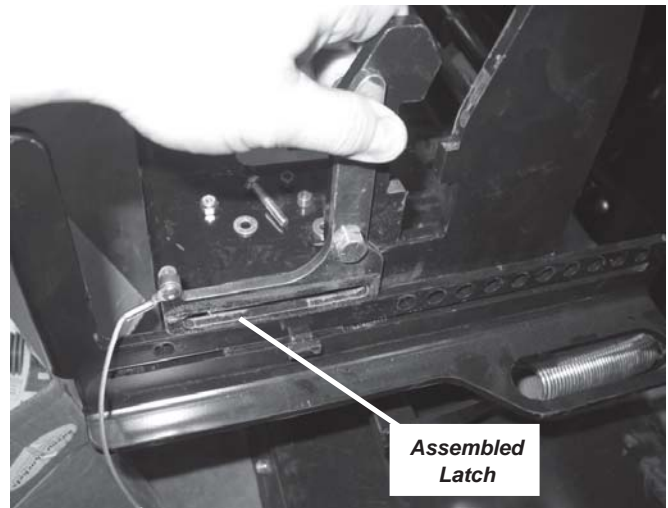

Figure 20 Install latch assembly to stand and plow support
22. Install latch assembly to top edge of stand and up against the side of plow support. See Figure 20.